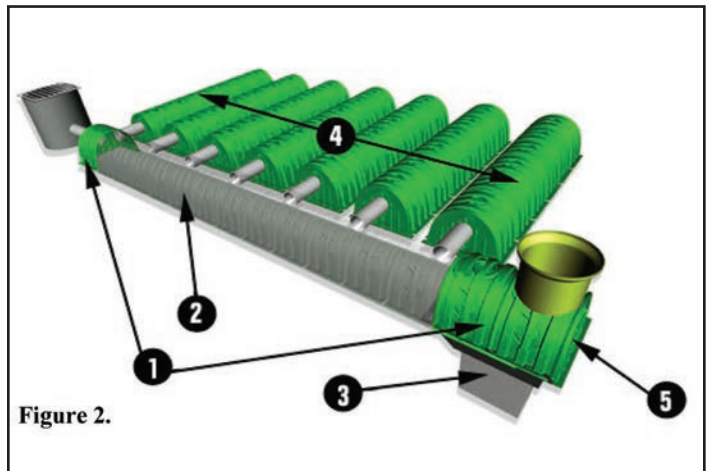

Figure 2.
The Main Header Row is comprised of many Triton SWS' chambers that sit on interconnecting sediment floors that are connected to a nearby manhole for easy access. At the end of the Main Header Row there is room for an optional Sump Basin Assembly (shown as item 3 in Figure 2) to help collect and contain any sediment that is flushed out of the Main Header Row during a rain event or maintenance cleaning. The Sump Basin Assembly can be accessed from above via a manhole or up to a 33" (538.2mm) diameter stand pipe. The Main Header Row feeds the distribution rows (shown as item 4 in Figure 2) via a feed or distribution pipe. The feed pipe is at an elevated invert height so the water in the Main Header Row must rise to the invert height before flowing into the distribution rows to capture the sediment in the Main Header Row. The Main Header Row protects the distribution chamber row storage areas from any sediment accumulation. This preserves the infiltration rate